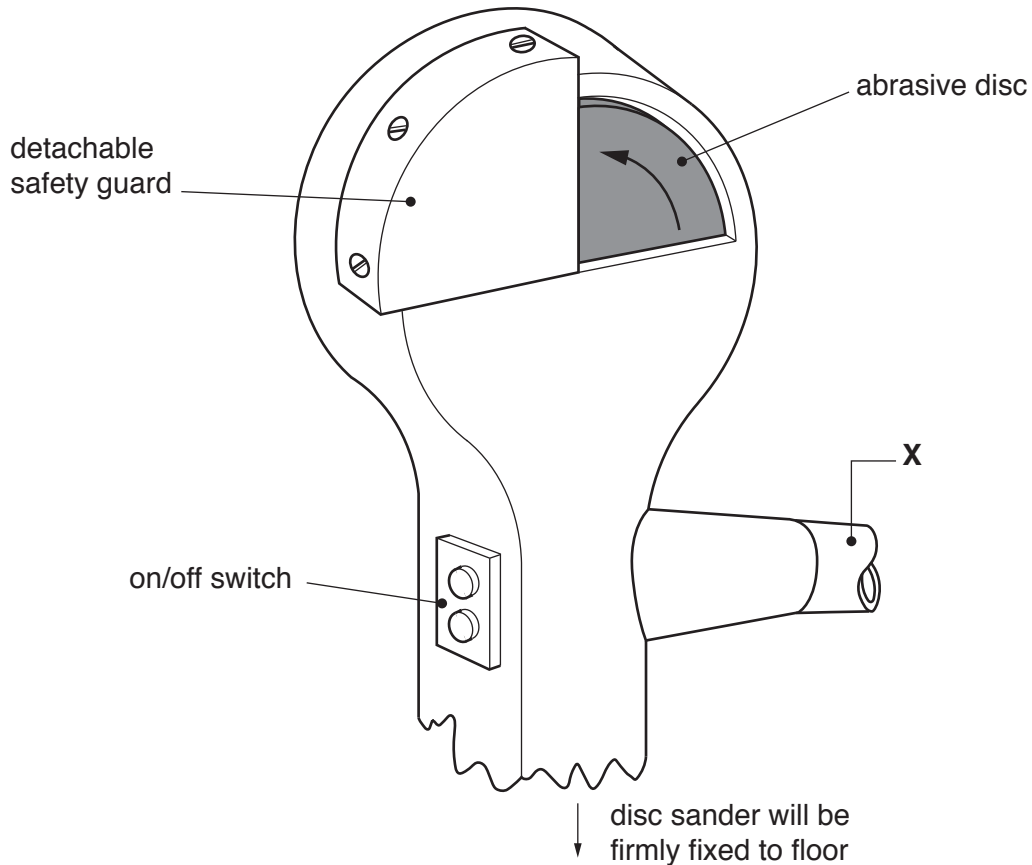

Fig. 4
- 4 Fig. 4 shows part of a disc sander. The disc sander will be fixed to the floor in a school workshop.